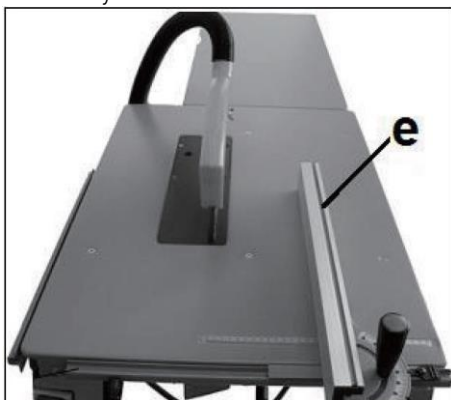

Fig. 27
Use 2 bolts and wing nuts (F, Fig 27, Fig. 28) to attach the aluminium profile (e) to the rip fence body.
- Use in upright position (Fig 27) for cutting wide stock.